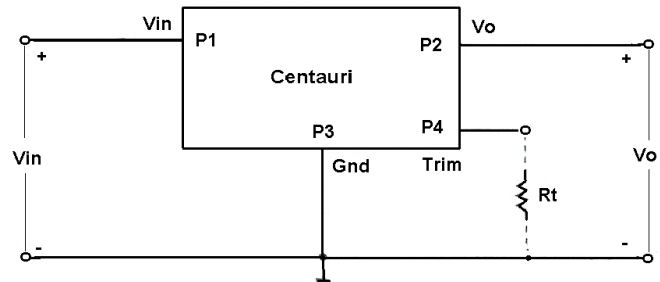

Figure 4. Output Voltage Trim Setup.
To adjust V_o to a higher value, please refer to Figure 4. The required resistor value (R_t) can be determined through Equation (1) where V_o is the voltage on P2 before the adjustment and V_{ot} is the voltage of P2 after R_t is connected.